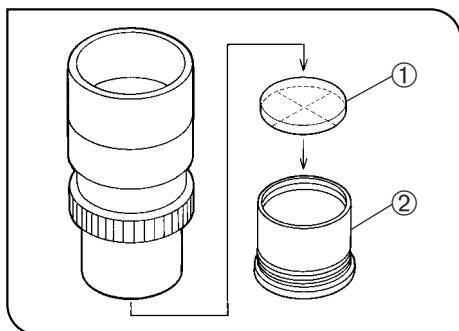

Fig. 25
4 Using Eyepiece Micrometer Disks (Fig. 25)
Following Fig. 25, unscrew the micrometer mounting frame ② from the eyepiece and place a micrometer disk ① into the mounting frame. The engraving on the micrometer disk should face downward into the micrometer mounting frame.